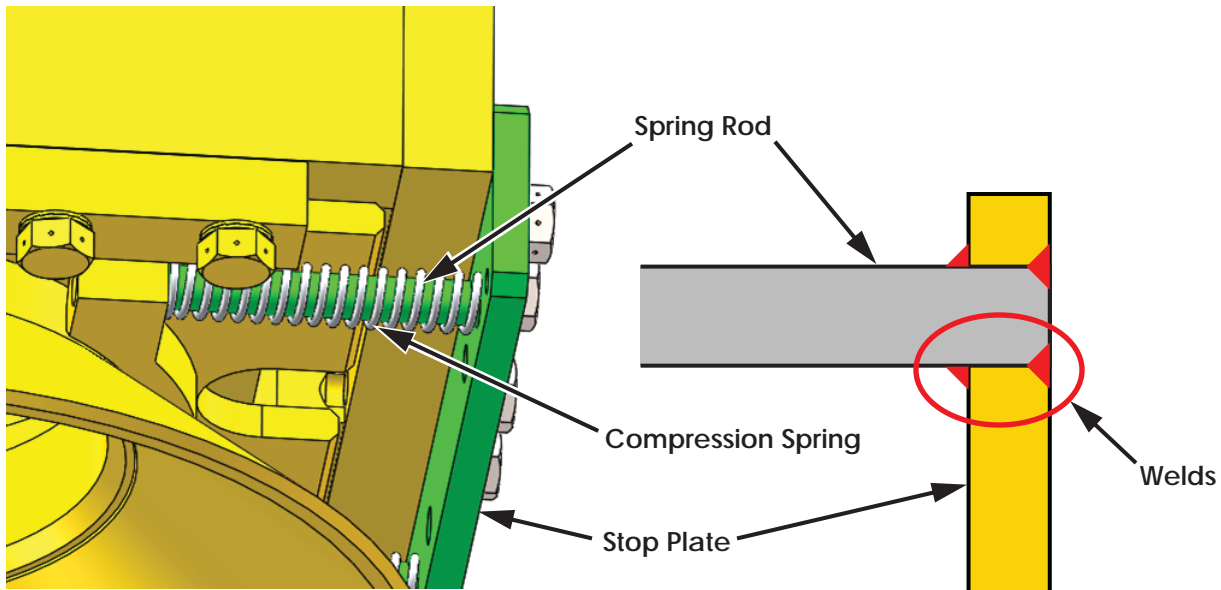

Figure 2: Spring Rod Stop Plate Weldment
All top drives that utilize a steel stabbing bell positioned by front compression springs, see Figure 2 on page 2.
- Ensure the spring rod is attached to the stop plate as shown in Figure 2 below. If the spring rod or welds are damaged, then contact RIGLINE 24/7™ Support to replace the back-up wrench gripper stop plate.